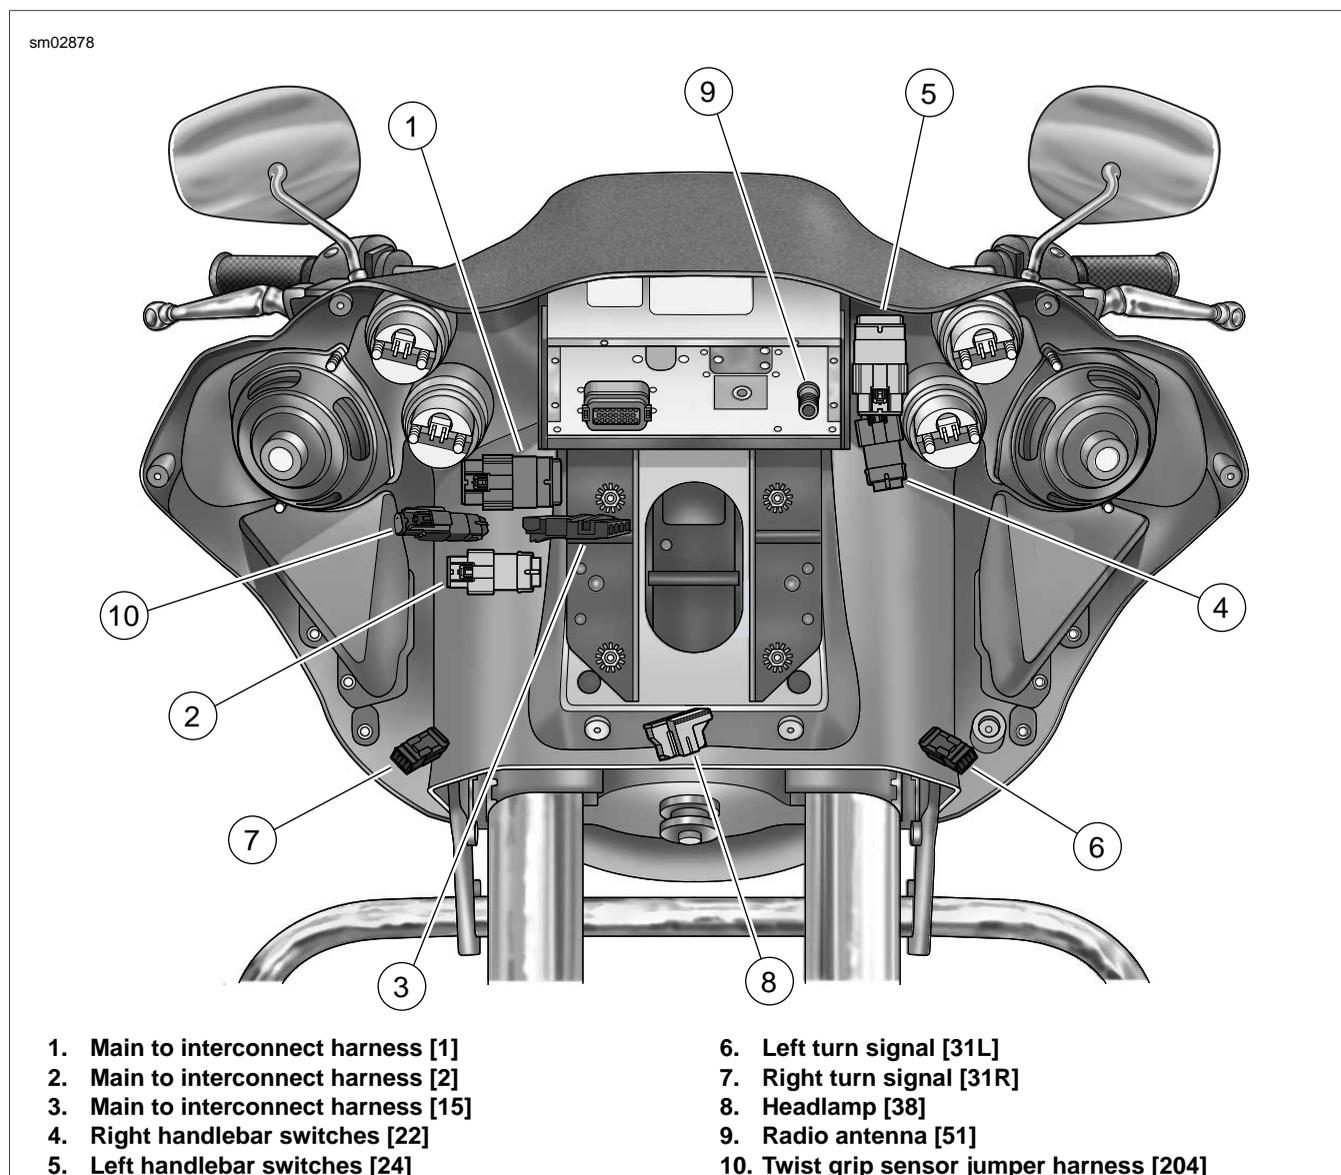

Figure 2-151. Inner Fairing Connectors (FLTR)
4. See Figure 2-151. Disconnect main harness from interconnect harness as follows:
7. See Figure 2-151. Disconnect handlebar switches from interconnect harness. Proceed as follows:
12. See Figure 2-151. Connect handlebar switches to interconnect harness. Proceed as follows:
15. See Figure 2-151. Connect main harness to interconnect harness as follows:
16. Orient connectors as shown in Figure 2-151. Install two **new** cable straps outboard of radio bracket hooks to secure wire bundles and conduit to convoluted tubing of interconnect harness. Cut any excess cable strap material.